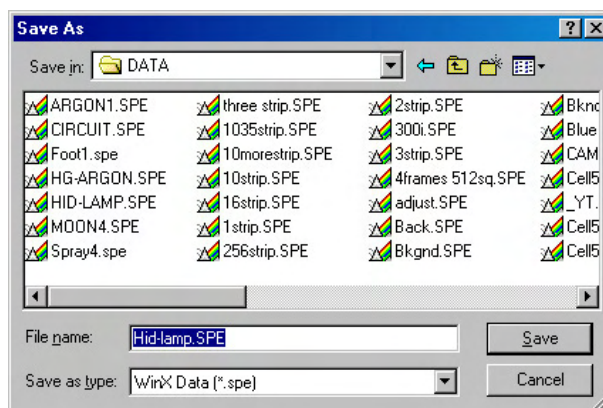

Figure 60. Data File Save As dialog box
1. Select **Save As** from the File menu. The Data File Save As dialog (Figure 60) appears.